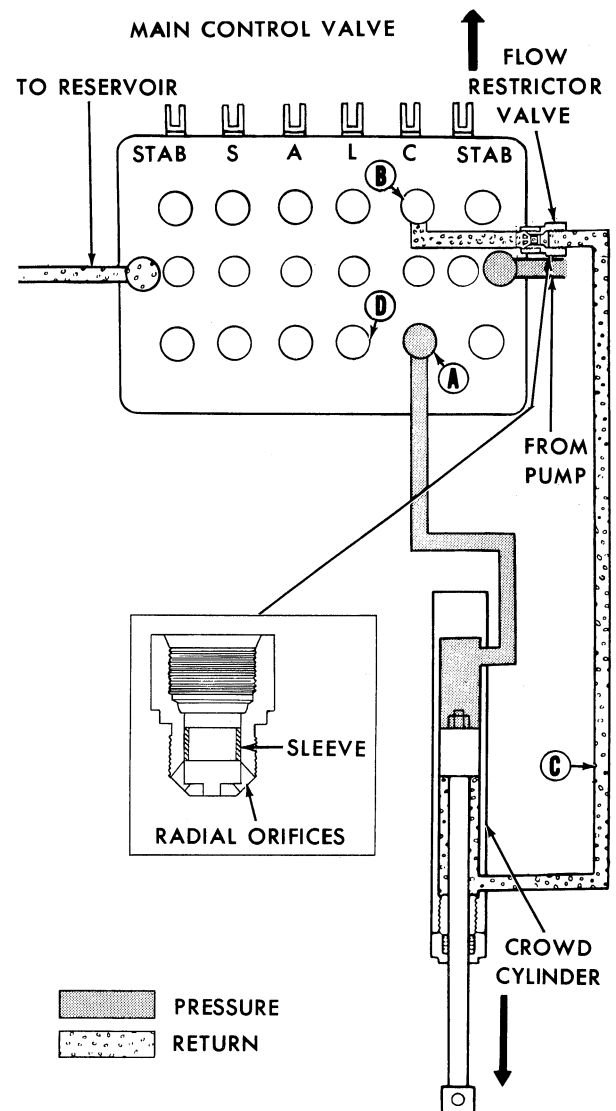

Figure 8
**Crowd and Lift Circuit Flow Restrictor Valves:** The flow restrictor valve, Figure 8, contains a loose-fitting sleeve which is free to move axially in the valve bore. The sleeve either blocks off or uncovers five holes drilled radially at the closed end of the valve. Sleeve movement is dependent on the direction of oil flow through the valve and provides either a restricted or free flow condition during cylinder activation. Figure 8 illustrates a general schematic of oil flow during cylinder activation.